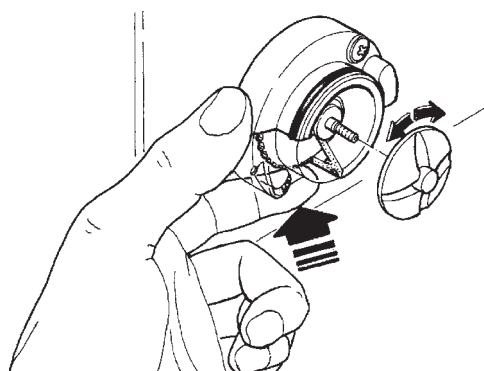

Fig. 5
- in order to remove the wheels, block the disk fitted on the mixer shaft with a finger (see Fig. 5);